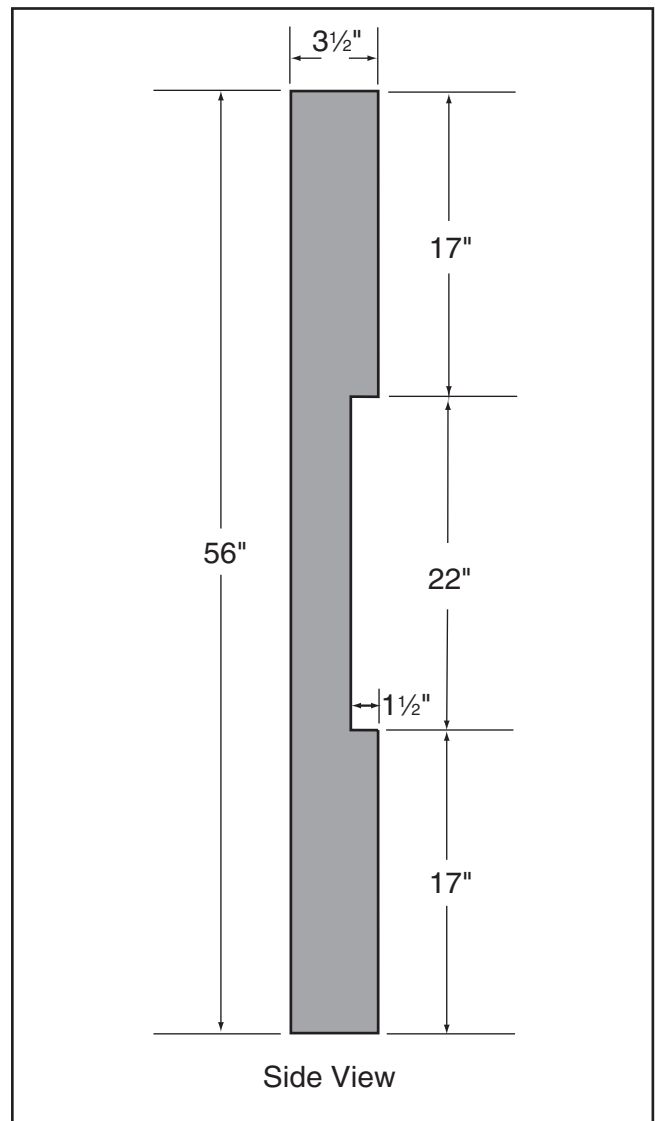

Figure 60. Dimensions of coplanarity gauge.
1. Make the "Coplanarity Gauge" shown in **Figure 60**. **Note:** For best results, straighten the 2x4 with a jointer before cutting.